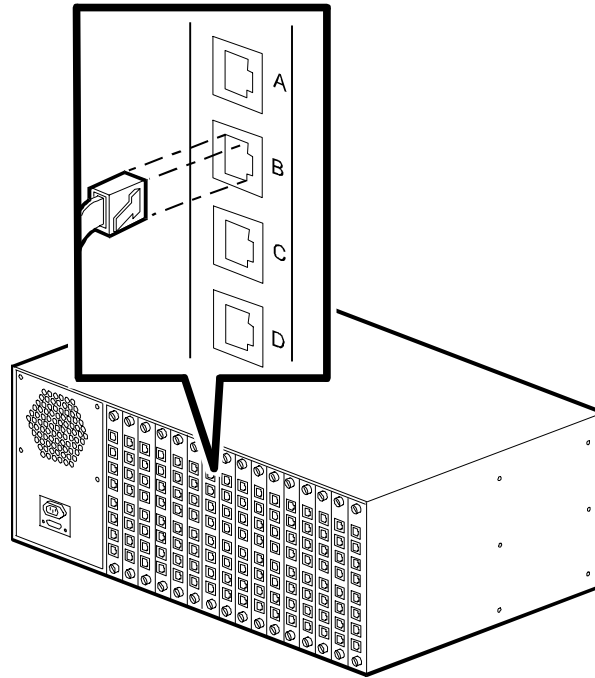

Figure 2-8. Attaching RJ11 Phone Cords
7. If you installed 4-port analog adapter cards, you also need to attach phone cords. Plug telephone connector cables (RJ11) into the RJ11 receptacles labeled **A**, **B**, **C**, and **D** at the top of each adapter card. Use a separate phone line for each receptacle. Attach the other end of each phone line to wall jacks. See Figure 2-8.